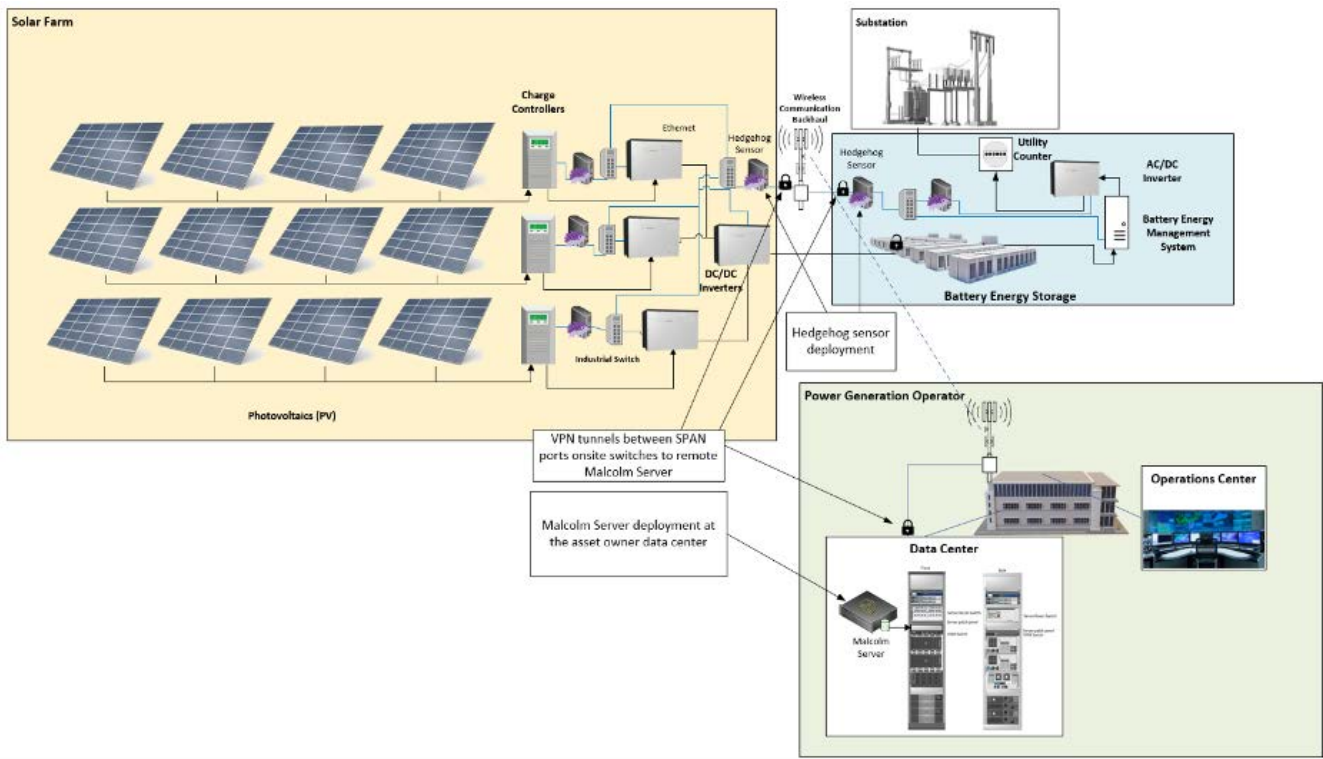

Figure 4. Network architecture diagram for a Solar Power Generation System (Wireless)
systems⁴⁰, this includes knowing where to place the sensors to capture the most relevant data from the network-connected equipment connected to Industrial Control Systems (ICS) or Operational Technology (OT) devices and systems in the Solar power generation system and the battery energy storage system (BESS) (See Figure 4).